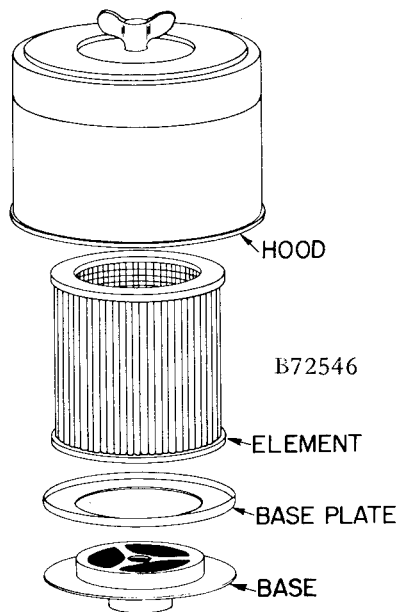

FIGURE 1-6. – DRY TYPE AIR FILTER
**AIR FILTER** (Figure 1-6) furnished as standard equipment is a washable element dry type filter. The air filter must receive proper maintenance if maximum service is to be obtained from the unit. Establishing adequate and timely filter service is **MOST IMPORTANT**. When the outside surface of the element appears to be evenly coated with dirt, it should be cleaned as follows: